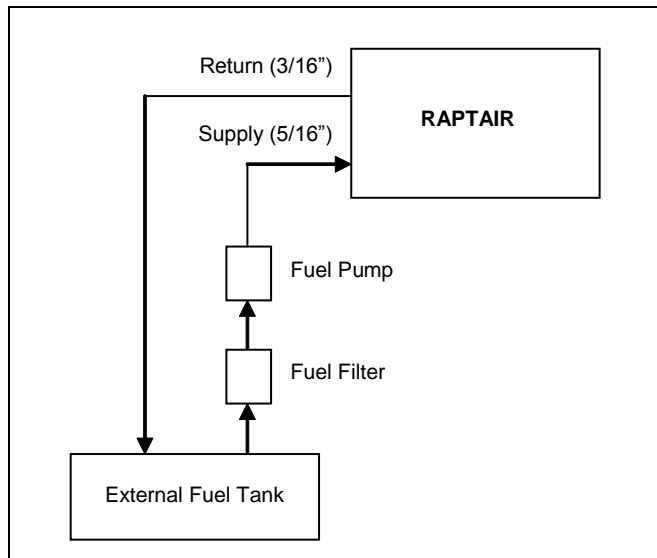

Figure 1 – Installing the fuel pump
3. Install Fuel Filter in supply line before fuel pump as seen in Figure 1 with Diesel compatible hose (not supplied).